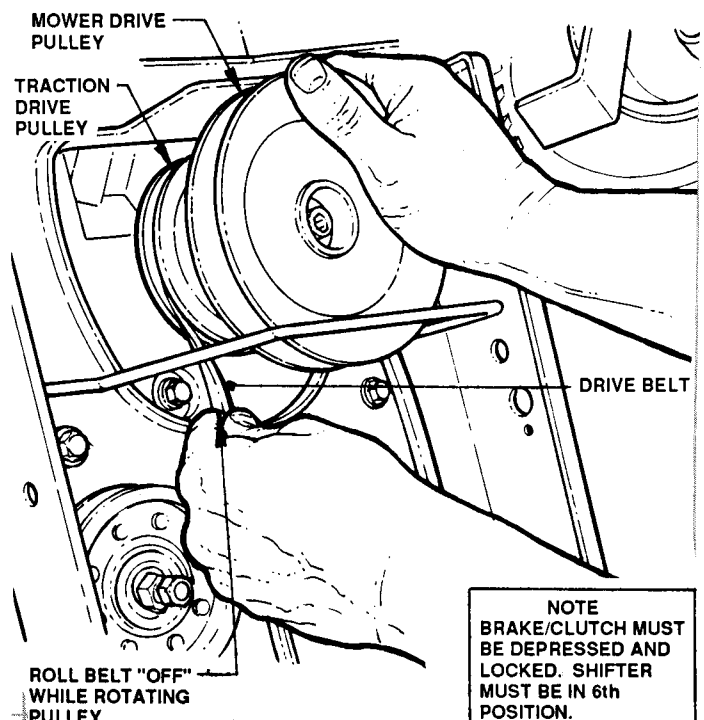

FIGURE 35
8. Remove DRIVE BELT from engine pulley by rotating MOWER DRIVE PULLEY and holding down on DRIVE BELT at same time. Allow belt to remain on hub between pulleys at this time. See Figure 35.